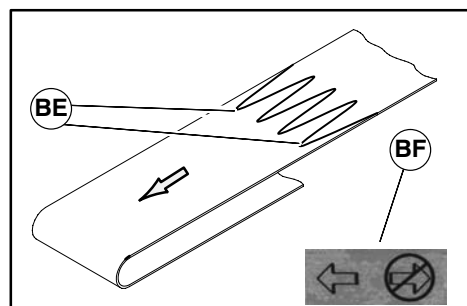

Figure 31
1. Orient belt so splice leading fingers (BE of Figure 31) point in the direction of belt travel as identified by the conveyor directional label (BF).
2. Orient belt so splice leading fingers (BE of Figure 31) point in the direction of belt travel as identified by the conveyor directional label (BF).